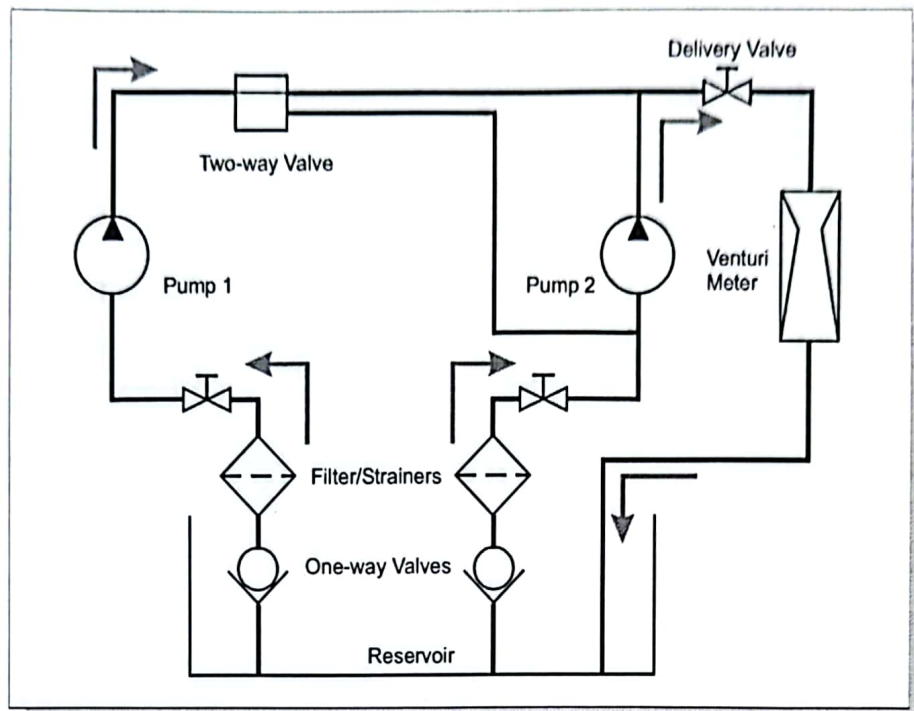

Figure 25 Flow Diagram for A Parallel Pump Test
3. Open both inlet valves and set the two-way valve to direct flow straight to the delivery pipe (see Figure 25). Fully open the delivery valve.